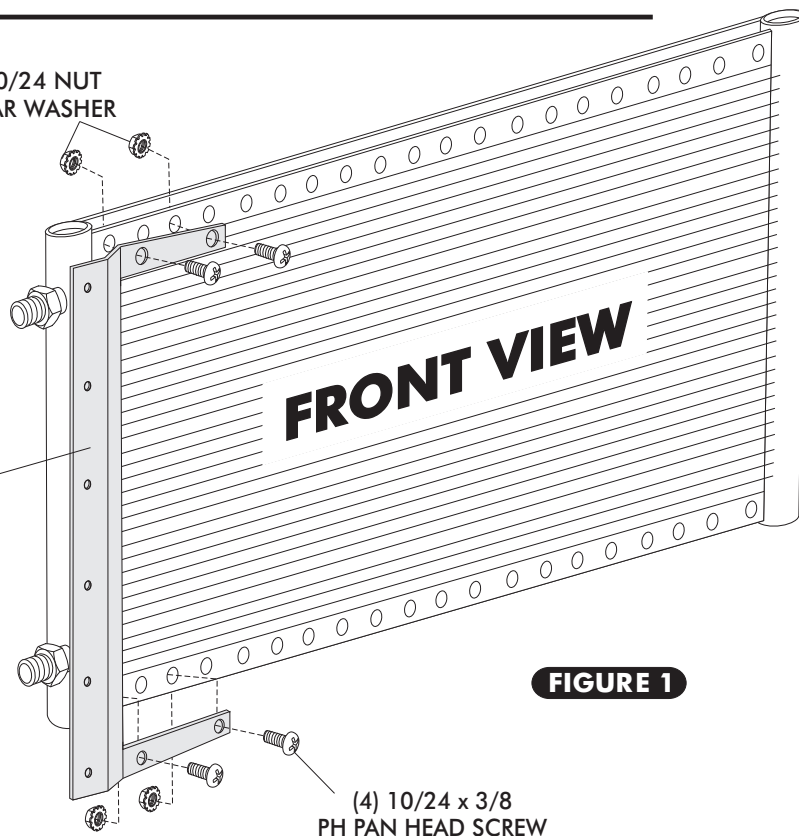

FIGURE 1
- INSTALL DRIER MOUNTING BRACKET ONTO CONDENSER USING (4) 10/24 x 3/8 PAN HEAD SCREWS AND (4) 10/24 NUTS WITH STAR WASHERS. SEE FIGURE 1 BELOW.